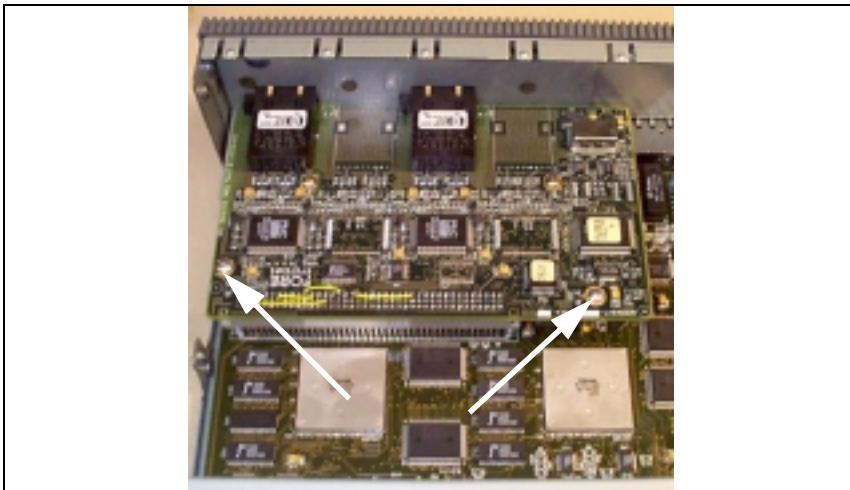

Figure C.6 - Remove the Top Two Screws from the Module
- b. Remove the two screws from each standoff on the top of the module as shown in Figure C.6.